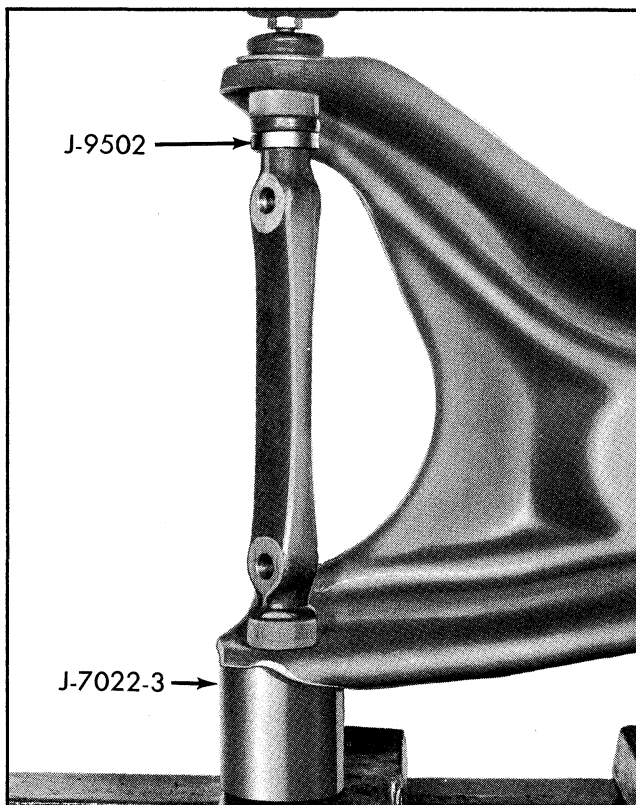

Fig. 3-14 Installing Spacer
6. Set up control arm as shown in Fig. 3-14 and install Spacer J-9502.